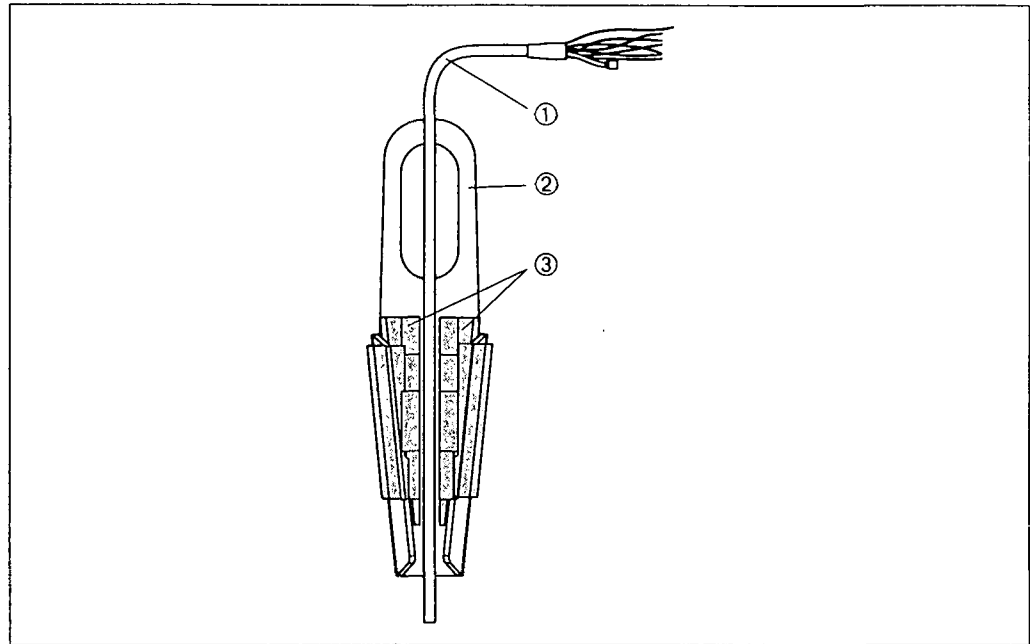

Fig. 5: Installing Waterpilot FMX167 with a mounting clamp
2. Raise clamping jaws (Pos. 3). Place extension cable (Pos. 1) acc. to Figure 5 between clamping jaws.